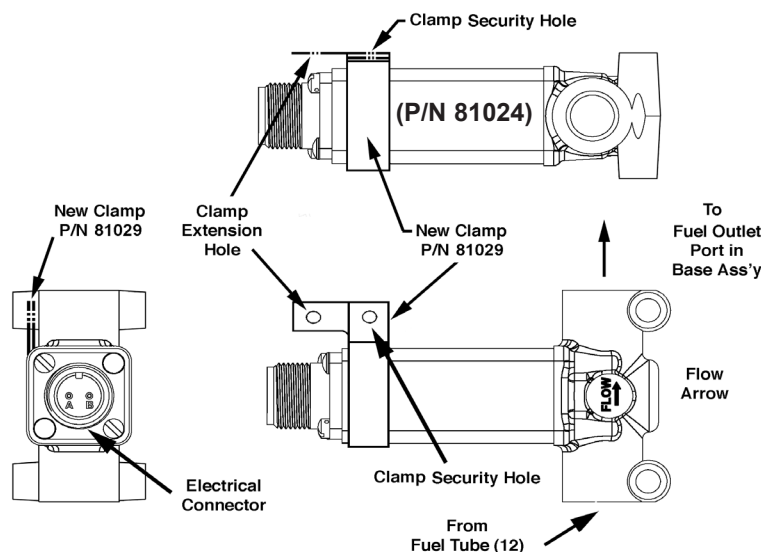

Figure B-6 - Solenoid Valve Flow Arrow & Clamp Orientation
- (6) Hold the union (49) using an open-end wrench and remove the nut (45), shroud (46), and gasket (47) on the face of the base assembly. Discard the gasket.
- (7) Using an appropriate tool, remove the nut, washer, and screw releasing the old 59C39 or 95034 clamp (53) and discard the clamp and hardware.
- (8) Note the position of the solenoid valve assembly (52) for later reassembly. Slide the union (49) which is attached to the solenoid valve out of the base assembly. Remove and discard the gasket (47) from the union assembly. Retain flat washer (48) and union (49) for later reinstallation. Properly discard the old solenoid valve.
- (a) If performing an overhaul, continue with the remaining steps of disassembly in the P/N 93C35 Overhaul Manual. When beginning the assembly for overhaul, perform steps 3.B(9) through 3.B(16) before continuing the normal overhaul reassembly and test.
- (9) Slide new clamp P/N 81029 over the new solenoid valve with the clamp extension hole pointing towards the valve electrical connector. Do not install screws at this time. (Refer to Figure B-6.)